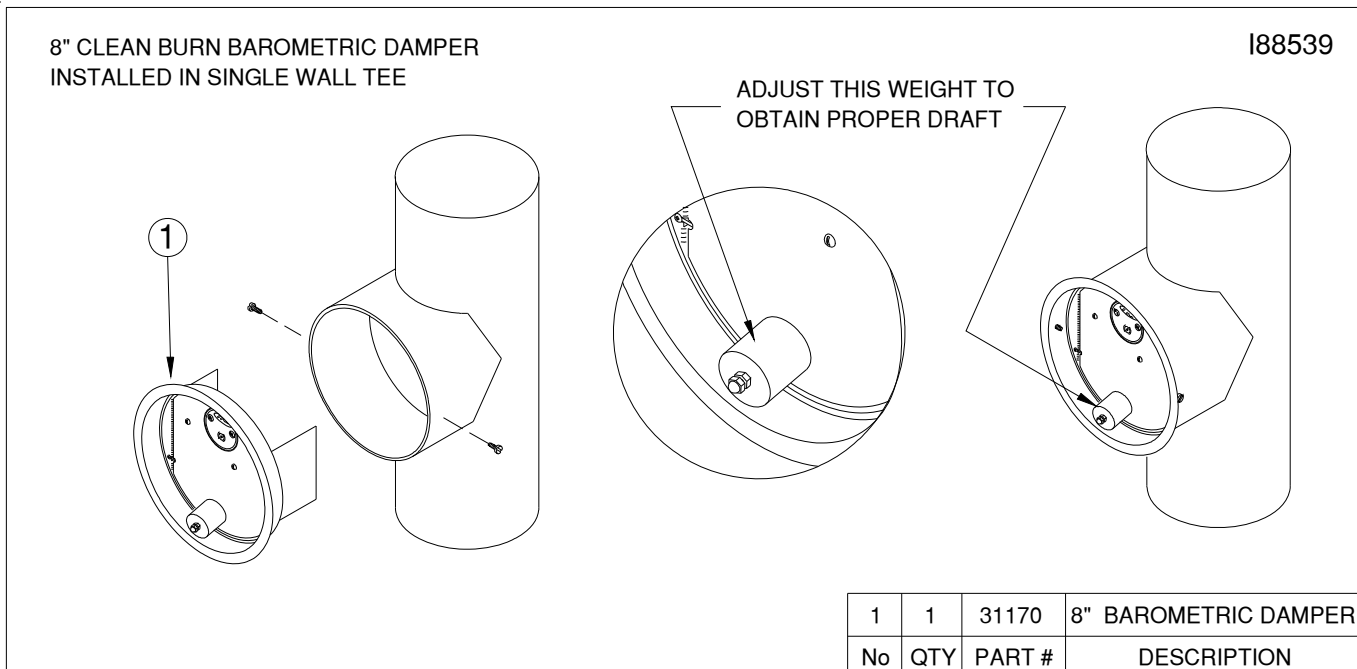

Figure 4N - Installation of Barometric Damper
2. Refer to Figure 4N. Install the barometric damper in the opening of the tee. Use a small spirit level to make sure that it is properly level.
3. Install two self-tapping screws as shown in Figure 4N (i.e. one on each side of the barometric damper) to hold the damper in place. **DO NOT** install a screw at the bottom of the barometric damper, or the flapper of the damper will not operate correctly.